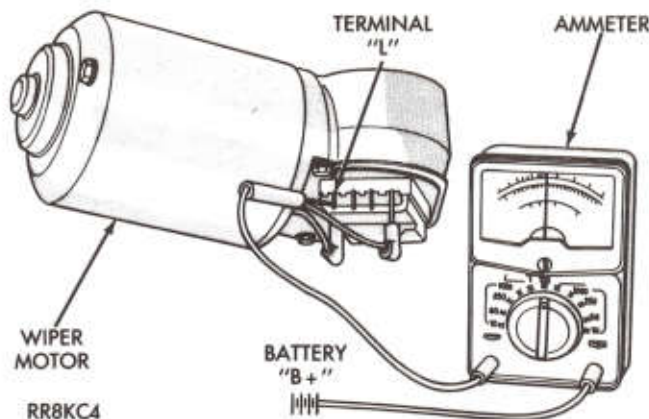

Fig. 2—Ammeter Between Terminal "L" and Battery
(1) Disconnect wiring harness connector at motor. Remove wiper arms and blades. Connect an ammeter between battery and terminal "L" on motor (Fig. 2).